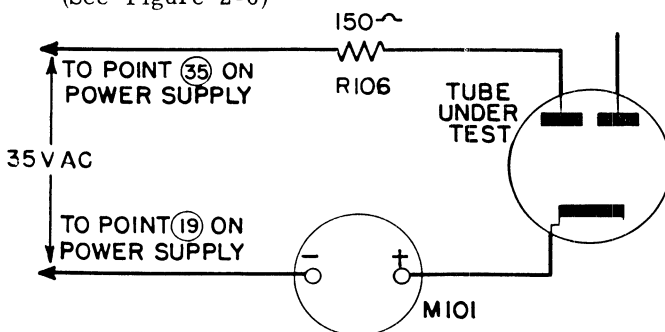

Figure 2-6. Simplified Rectifier Test Circuit
(See Figure 2-6)
e. Pressing the button P-6 sets up a circuit similar to figure 2-6, but a higher voltage is applied, 330 volts ac, for testing rectifiers of the cold cathode type such as the OZ4 type.
f. Pressing button P-2 also establishes a circuit similar to figure 2-6, but a lower voltage, 20 volts ac, is used to protect the delicate cathodes of diode detector types such as the 6H6.